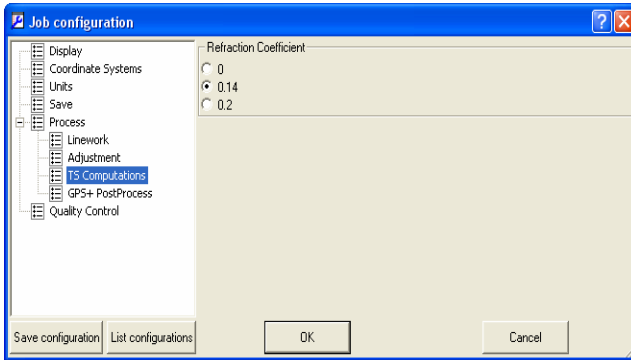

Figure 2-39. Job Configuration – TS-Computation
- The *TS-Computations* tab sets the refraction coefficient to be applied to total station observations when adjusting (Figure 2-39). The default refraction coefficient is 0.14.